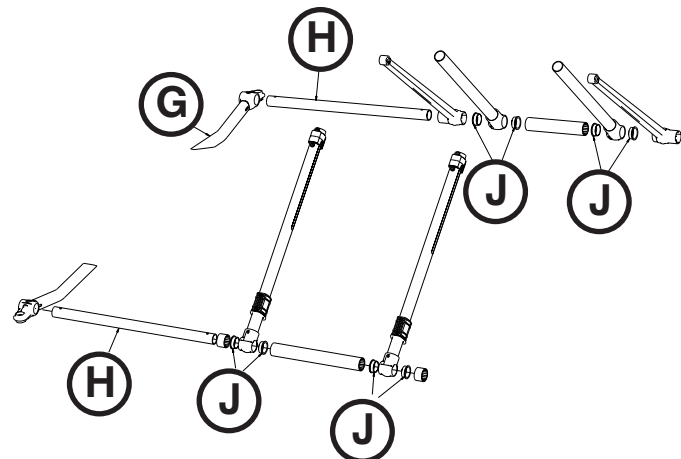

Figure 70
6. Remove the outer base tube weldment (G) on the side that is damaged. Leave the opposite side on to support the X-frame (Figure 70).
7. Slide the foot base tubes (H) through the X-frame legs to loosen the X-frame (Figure 70).